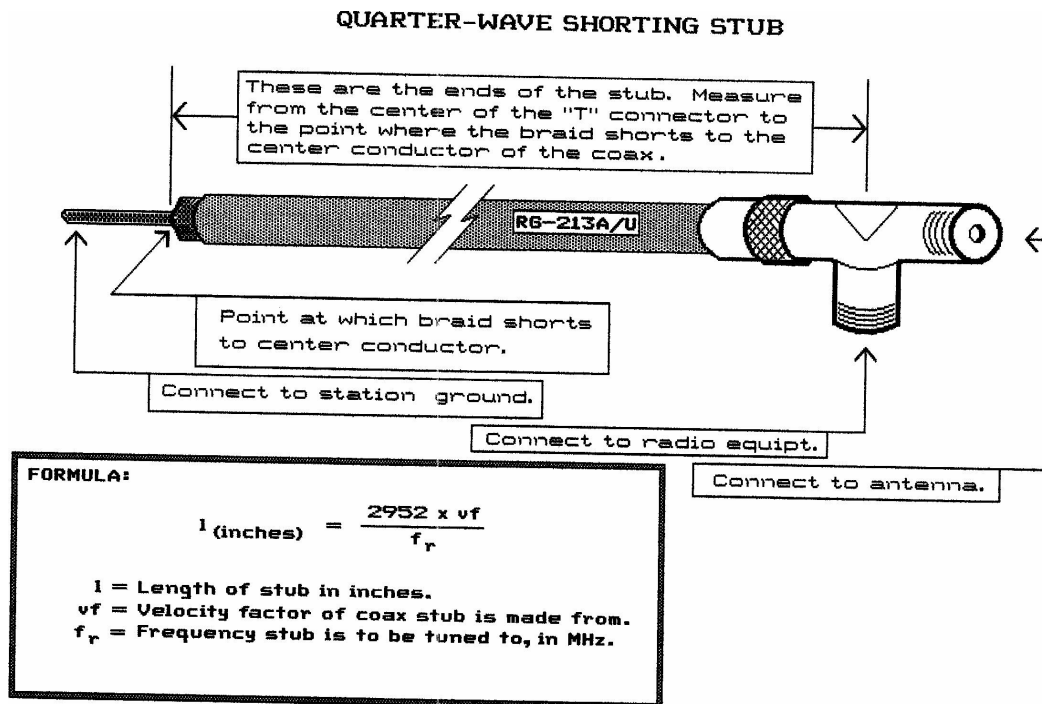

Figure 1.
Refer to the drawing in figure 1. This drawing shows several things.
STEP 3. Perform the calculations to determine the length of the stub. Use the formula found in the inset box on figure 1. Do not forget the velocity factor of the cable (vf) must be multiplied by the constant.